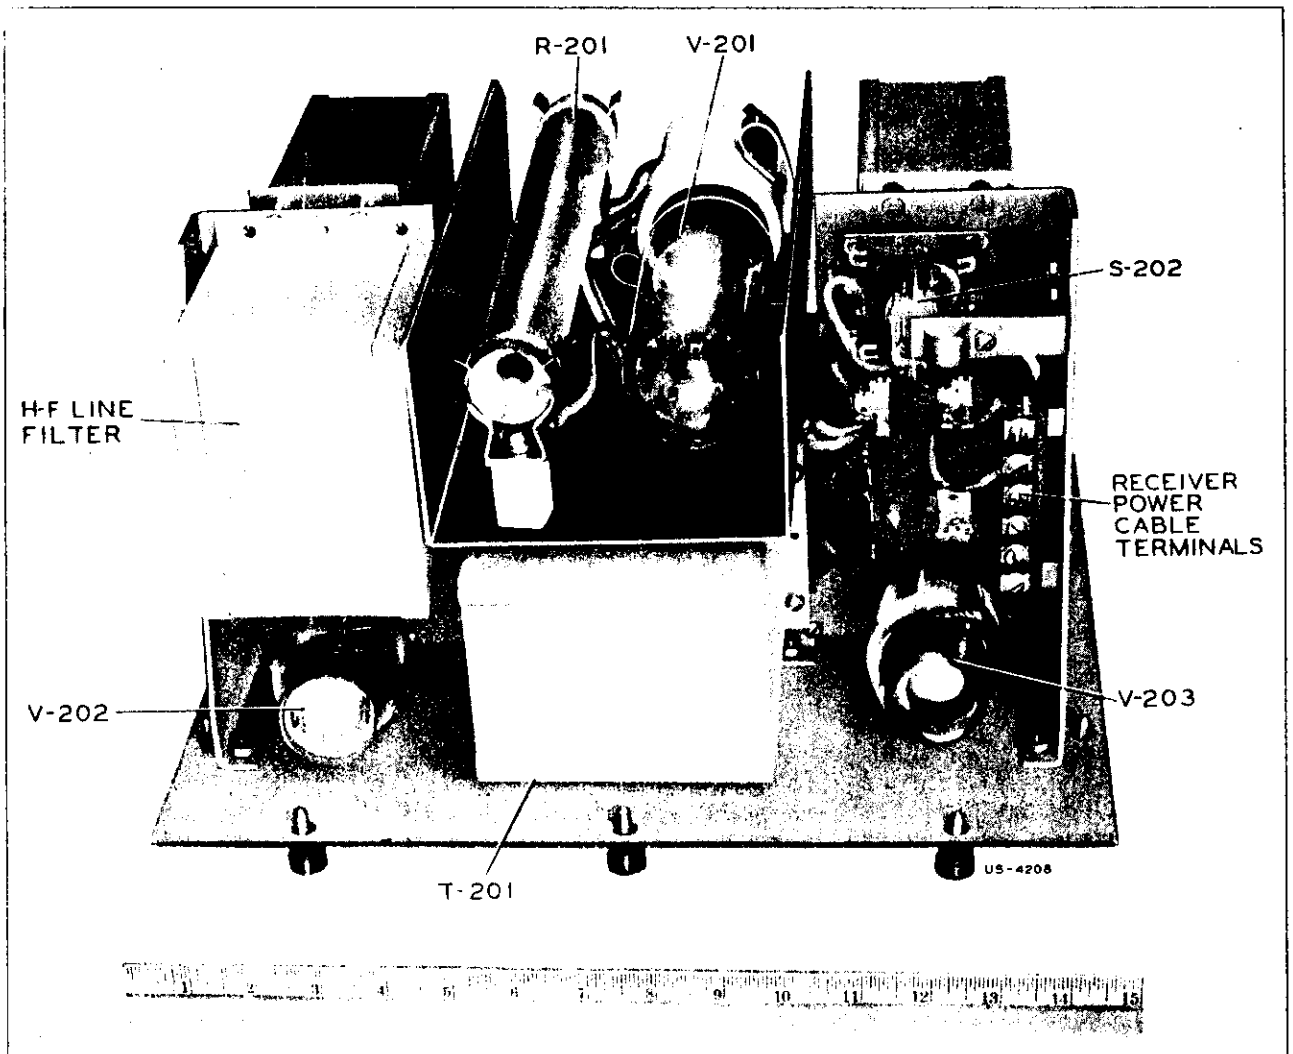

Figure 1—Power Unit CRV-20131 (Top View of Chassis)
- 6.4-1 The wiring between units is shown in Figure 15. At installation, the supply voltage should be measured or otherwise ascertained and the primary taps of the power transformer (T-201) shifted if necessary to comply with the nominal line rating. These taps are connected at the factory for 115 volts as indicated by the marking "115" adjacent to the terminals to which the red wires from toggle switch S-202 is connected (see Figures 1, 4 and 20). If the supply voltage is nearer 110 or 120 volts than 115 volts, shift these red wires to one of the two other pairs of terminals (marked "110" and "120," respectively) as required. To eliminate as much a-c hum and other electrical interference as possible, the 110-, 115-, or 120-volt, a-c supply should be connected to the power unit by a shielded twisted pair of wires (No. 14 or larger), or run in grounded conduit as far as the bulkhead adjacent to the power unit and terminated in a junction box. In no case should transformers or other a-c equipment be located in close proximity to the receiver.
7.1-1 The tube locations are shown in Figures 1 and 15.
8.3-1 The power unit is designed for mounting underneath a table (see Figure 14). The cabinet may be permanently mounted, the chassis being removable for access to tubes, for servicing, and for cable connections. All components are mounted on the chassis or panel forming a single assembly (see Figures 1, 4, and 7). On top of the chassis from left to right are located the rectifier tube, h-f line filter shield, power transformer, voltage regulator tube, resistor board, and power terminals. The line filter shield at the left rear is removable for access to the line input terminals and fuses. In the center at the rear is located the current-regulator tube. Beneath the chassis from left to right are located the l-f line filter, ripple filter reactors, and ripple filter capacitor pack.
- 9.5-6 In order to make this power unit interchangeable with the one used in the RAL Series equipment, a socket is provided for a Type -876 current-regulator tube. Since this equipment operates at relatively low frequencies, the additional freedom from effect of line voltage variation obtained from the current-regulator tube is not needed if the line regulation is within ± 10 percent. In the interest of conserving primary supply current, its use with this equipment is not recommended under normal circumstances. A switch, therefore, is provided inside the unit (see Figures 1 and 4) which accomplishes the changes in circuit necessary for operation without this tube. This switch disconnects the current-regulator tube and switches the power transformer primary for operation directly connected to the line filter. (See paragraph 10.2-3.)
- 10.2-3 Current Regulator Switch: This switch is located under a terminal board at the right rear top of the chassis (see Figures 1, 4 and 20) and should be thrown to the "Out" position for this equipment. In this position, the proper primary connections to the transformer are made for operation without current regulation.